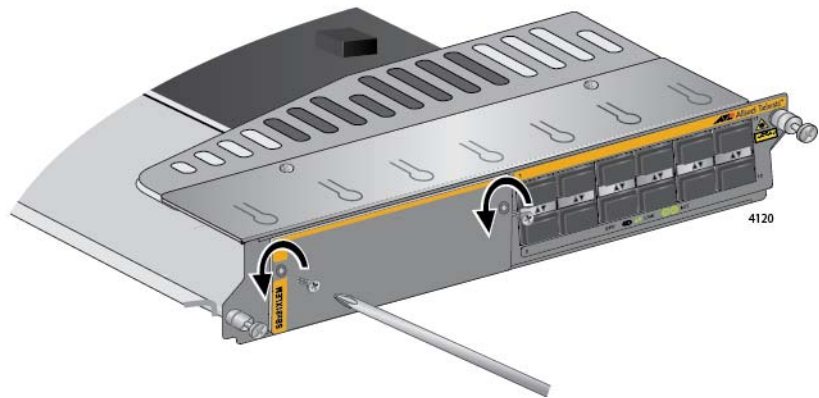

Figure 75. Removing the Screws on the Blank Slot Cover on the AT-SBx81XLEM Line Card
4. With a #2 Phillips-head screwdriver, remove the two screws that secure the blank slot cover to the card. Refer to Figure 75.